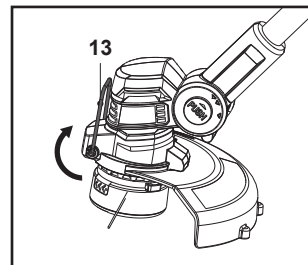

Fig. 12, storage position
2. Rotate the plant protector (13) back for transport and storage (Fig. 12).